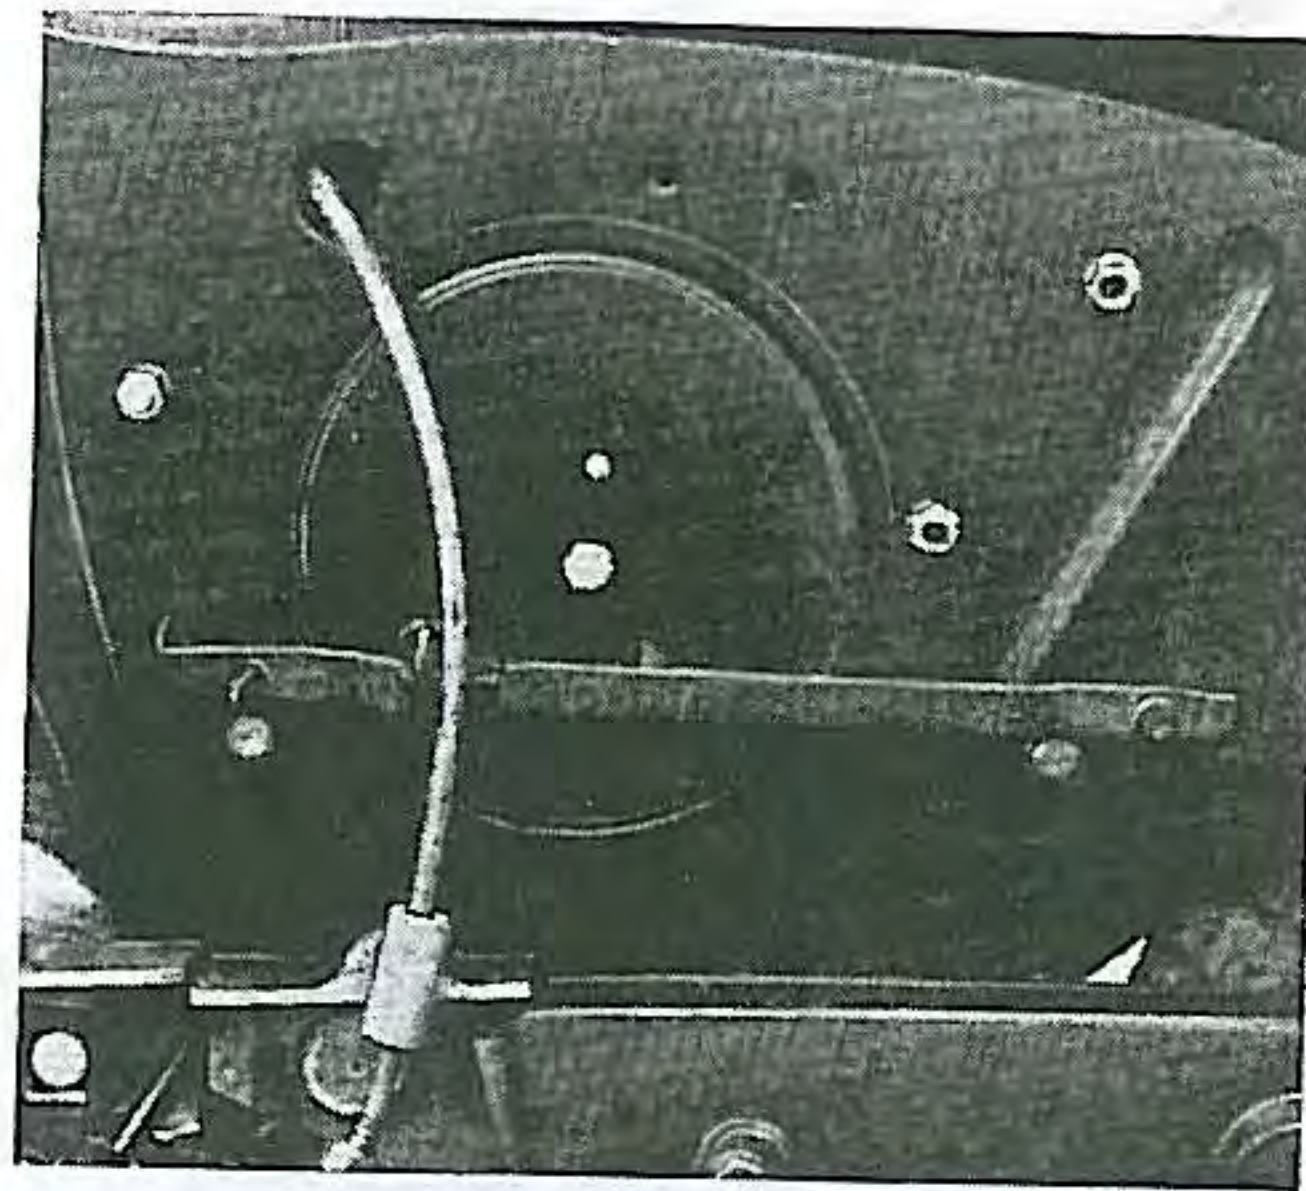

Fig. 9. Attachment of tool tray board
- (4) Take off tool box in order to remove the air cleaner element with the tool tray board. (Fig. 9) The air cleaner can be disconnected from the carburettor rubber tube, by inserting left hand through frame under the carburettor and unhooking the clip on it.